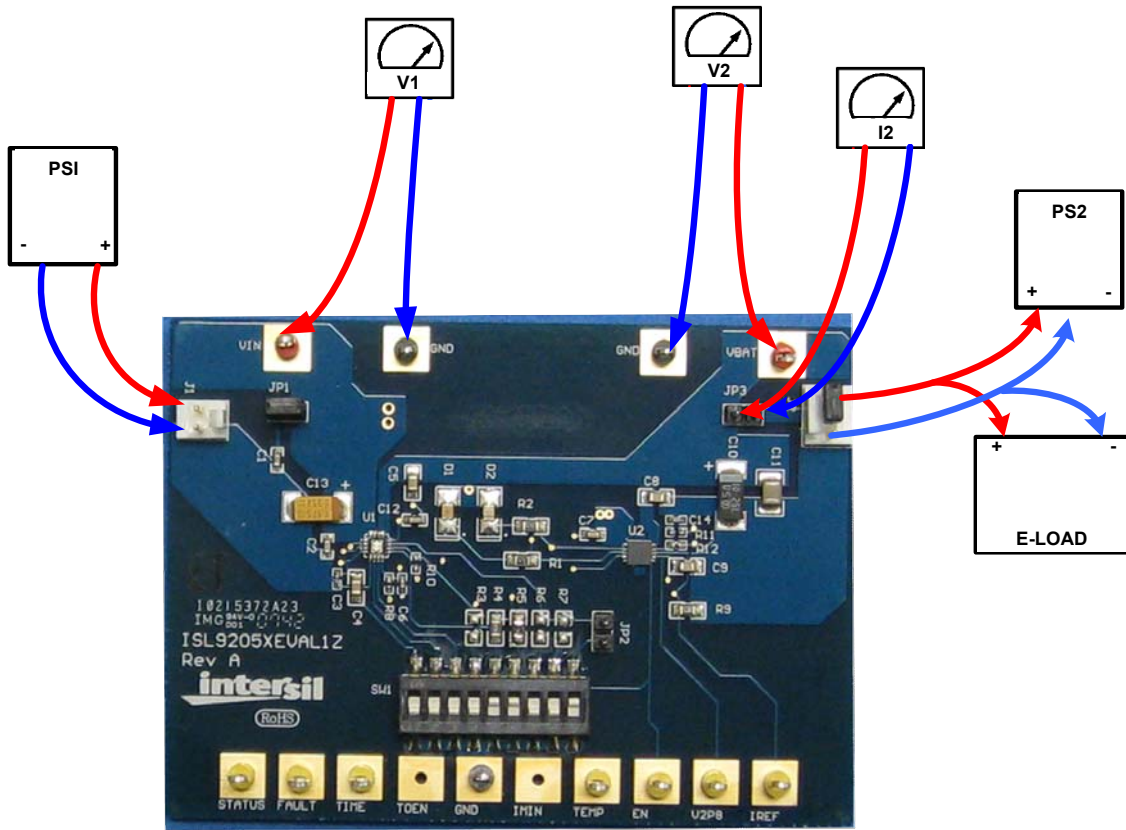

FIGURE 1. CONNECTION OF INSTRUMENTS
### Quick Setup Guide (Refer to Figure 1)
- Step 2:* Insert a jumper shunt between pins 2 and 3 of J2, as shown in Figure 1
- Step 3:* Connect a 3.7V supply PS2 to J2 as shown in Figure 1, with the current limit set at 1.2A
- Step 5:* Connect amp-meter I2 as shown in Figure 1